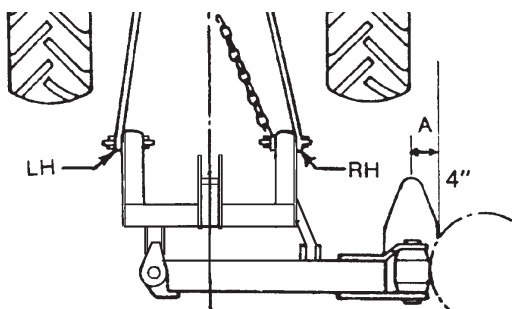

Figure 1
1. Connect the 3-point frame to the lower links of the tractor and secure with click pins. Adjust the right tractor wheel until dimension A (the distance between the outside of the right tire and the outer edge of the inner shoe) is approximately 4". (See **Figure 1**.) Lower pins can be adjusted to offset mower. Loosen and remove retaining stud and move to next pin recess (2" increments) and retighten bolts. Make sure bolt fits into blind pin hole securely.